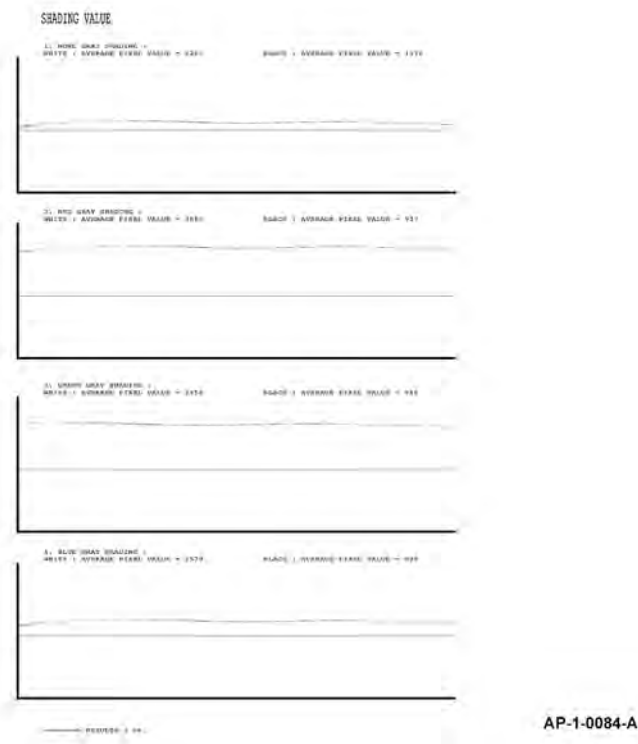

Figure 1 Shading profile
4. After the scan, the CCD shading profile will be printed, Figure 1.